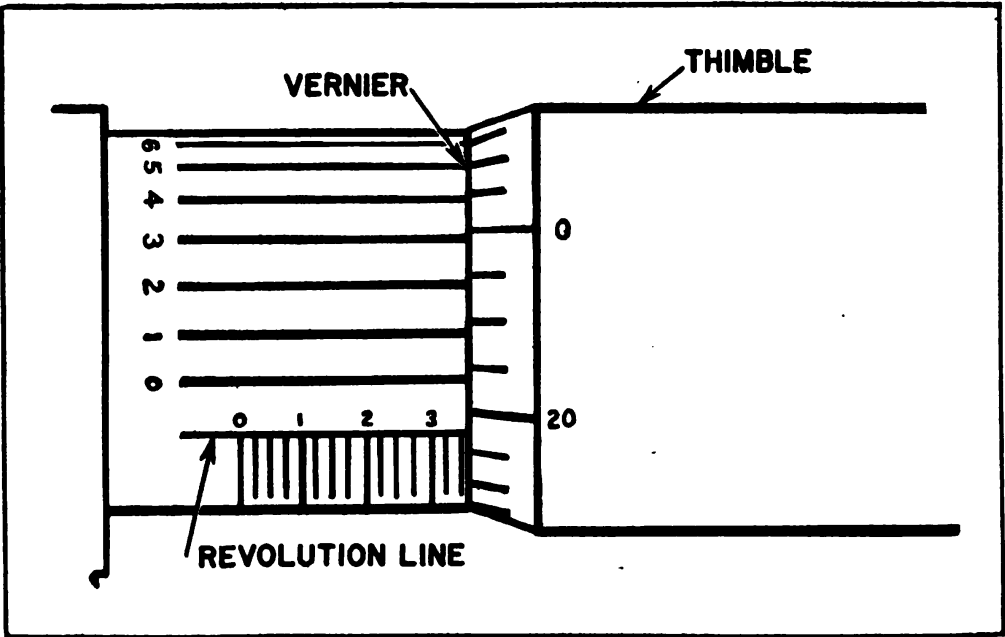

FIGURE 101.—Vernier scale applied to micrometer.
b. Vernier scale applied to micrometer.—Figure 101 shows how this principle is applied to the micrometer. The vernier in this case consists of ten divisions marked on the barrel which equal, in over-all dimension, nine divisions on the thimble.
(1) To obtain a correct reading in ten-thousandths in the example in figure 101, first find the reading in thousandths by the method described above, which in this case would give—